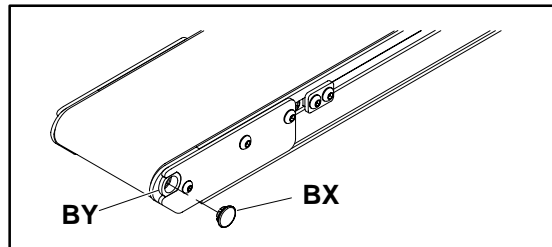

Figure 34
1. With a small flat blade screwdriver, remove plug (BX of Figure 34) from retainer (BY).